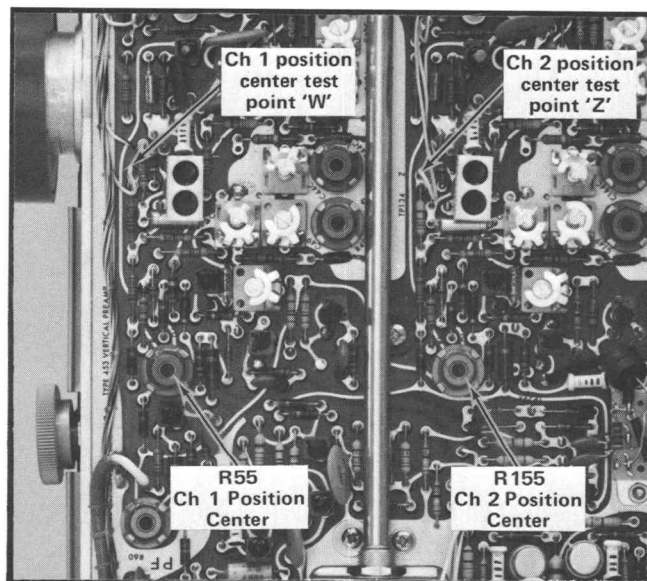

Fig. 5-5. Location of position center test points and adjustments (Vertical Preamp board).
a. Connect the DC voltmeter between pin connector "Z" on the Vertical Preamp board (see Fig. 5-5) and chassis ground.
d. ADJUST—CH 2 Position Center adjustment R 155 (see Fig. 5-5) to position the trace to the center line.
f. Connect the DC voltmeter between pin connector "W" on the Vertical Preamplifier board (see Fig. 5-5) and chassis ground.
i. ADJUST—CH 1 Position Center adjustment R 55 (see Fig. 5-5) to position the trace to the center line.